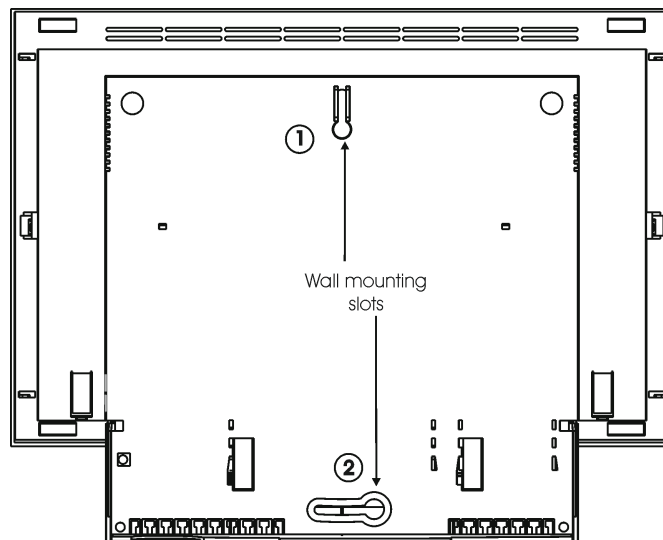

Figure 3-4 Installing the HiPath 1120
3.	Hang the system at the top of ①, on the screw (see figure 3-4).
4.	Mark additional holes for washers ② and remove the system.